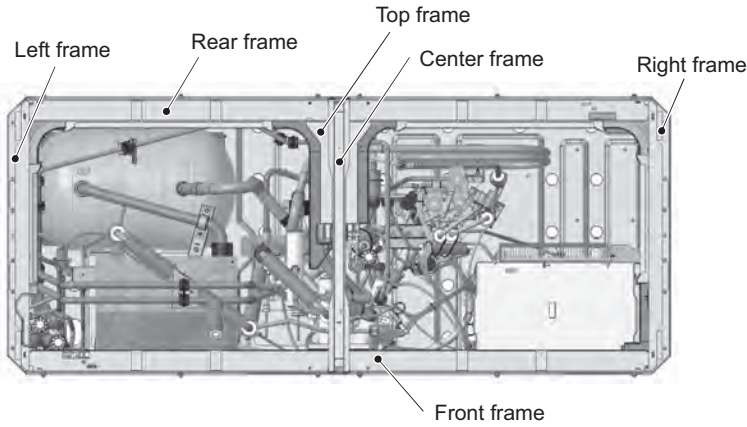

Figure 15
To remove the rear heat exchanger, remove the braze from four areas. (See Figures 15 and 16.)
Removing the high-efficiency rear heat exchanger (Figure 15)
- (14) To remove the front heat exchanger, first remove the front, left, right, and center frames by unscrewing the 16 screws. (See Figure 15.)
To remove the right and left rear heat exchangers, remove the top and the rear frames in addition to the front, left, right, and center frames by unscrewing the 21 screws. (See Figure 15.)